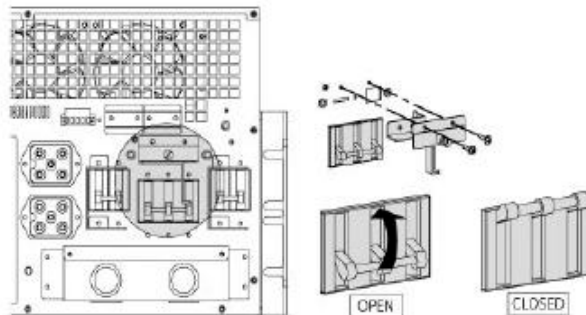

FIG 56 – 10KVA MAINTENANCE BYPASS SWITCH TO UTILITY
- i. Remove the BYPASS PROTECTION COVER (FIG 56).